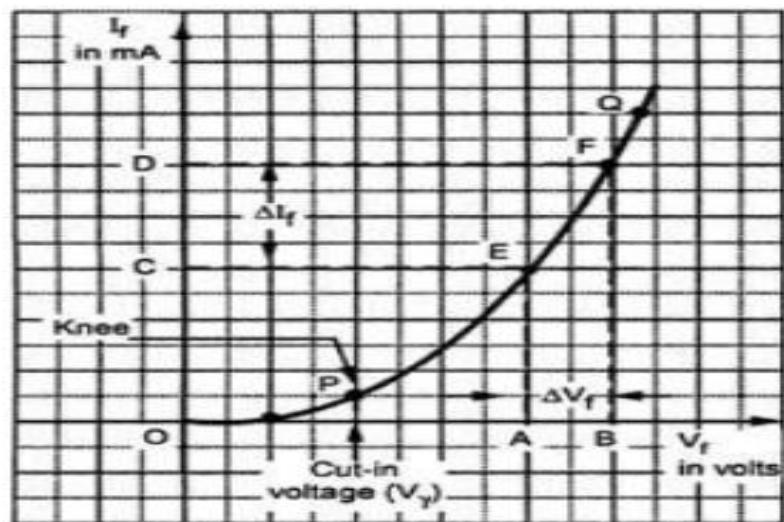

Fig. 1.6 Forward characteristics of a diode
- The graph of forward current  $I_f$  against the forward voltage  $V_f$  across the diode is called forward characteristics of a diode and is shown in fig. 1.6.
- Region O to P (From Fig. 1.6):
- Region P to Q and onwards (From Fig. 1.6):
- This increase in the current is exponential as shown in the Fig. 1.6 by the region P to Q.
- Consider the change in applied voltage from point A to B shown In the Fig. 1.6 and denoted as  $\Delta V_f$ .